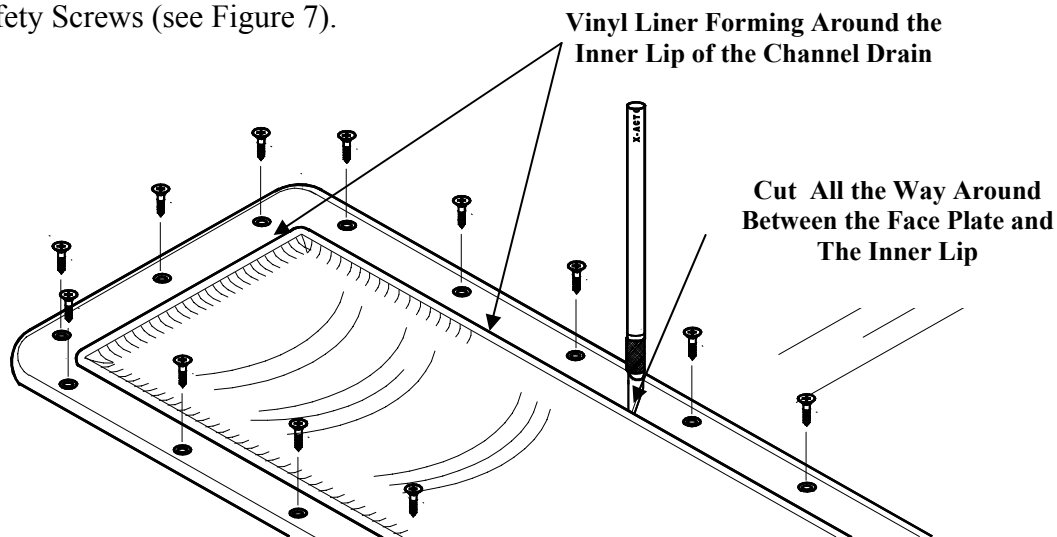

Figure 6
4. Starting at either end of the Channel Drain, place the face plate into position and apply slight pressure to seat the face plate down into place around the inner lip (see Figure 6).